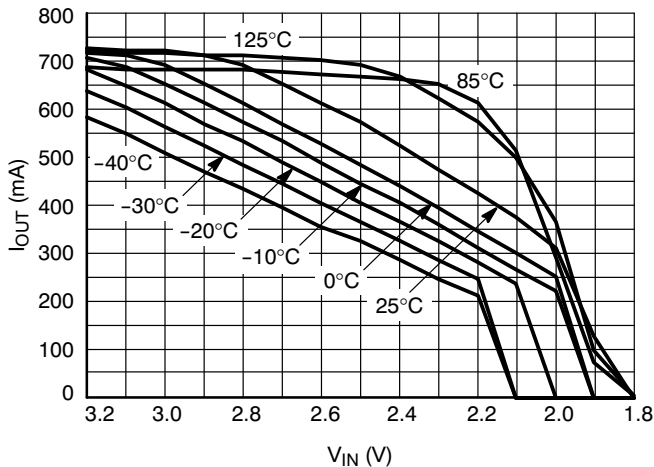

Figure 21. Output Current Capability for the 1.8 V Version
18. For output current capability for  $T_A < 0^\circ\text{C}$ , please refer to Figure 21.